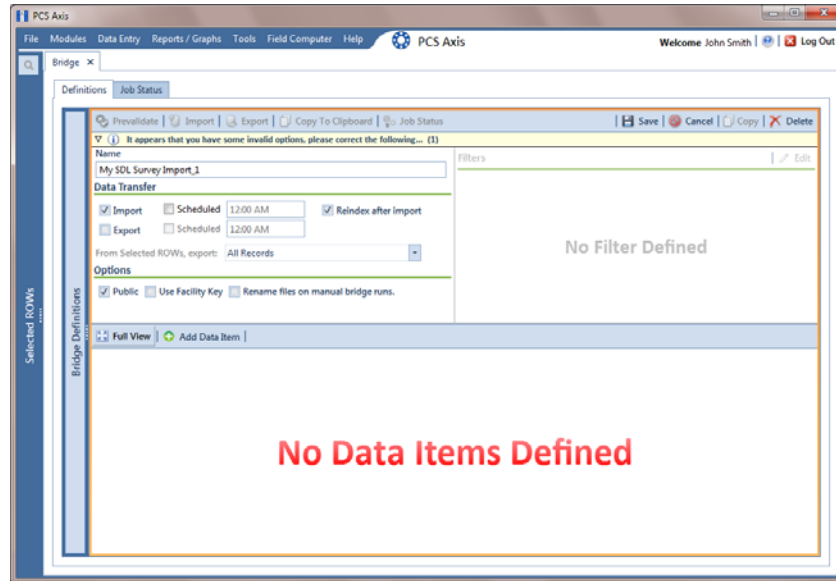

Figure 10-14. Bridge Import Definition
- 4 Type a unique name for the definition in the **Name** field (Figure 10-14, page 467).
- 5 Complete the following steps to set properties in the *Data Transfer* group box (Figure 10-14, page 467):
- 6 Complete the following steps to set properties in the *Options* group box (Figure 10-14):